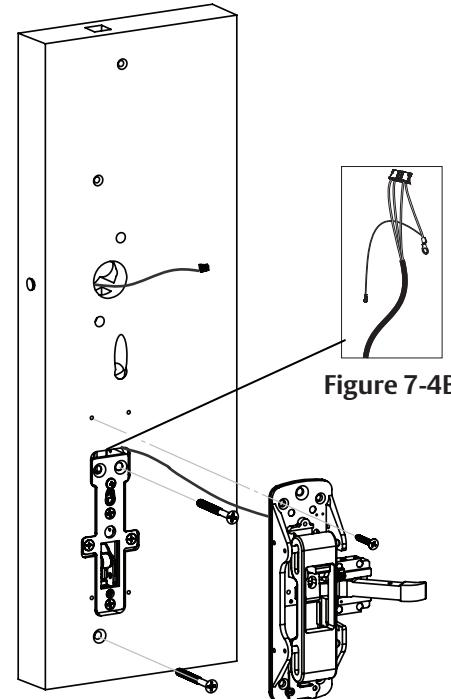
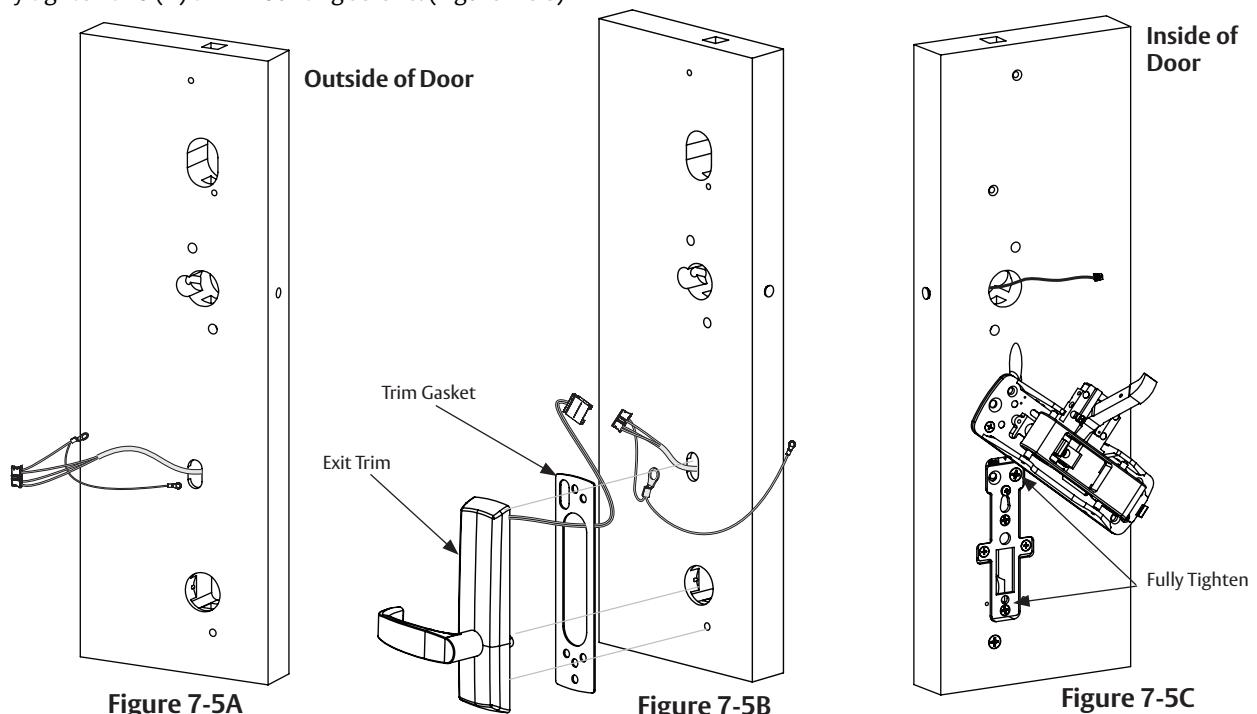

Figure 7-4B
Figure 7-5A
- NOTE: Exit chassis harness consists of a 6-pin female connector and two (2) ground wire terminals. (Figure 7-4B)
2. Feed 6-pin connector and larger ground wire terminal straight through to outside of door. (Figure 7-4B, Figure 7-5A)